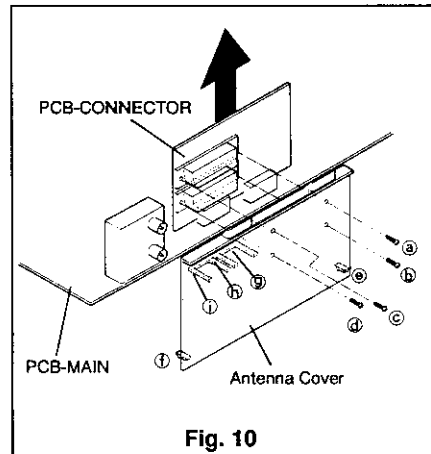

Fig. 10
- (2) Remove four screws (a, b, c and d), unfasten five catches (e~i) on the Antenna Cover as shown in Fig.10, and remove the Antenna Cover.
- (3) Raise the PCB-CONNECTOR upward to remove it.